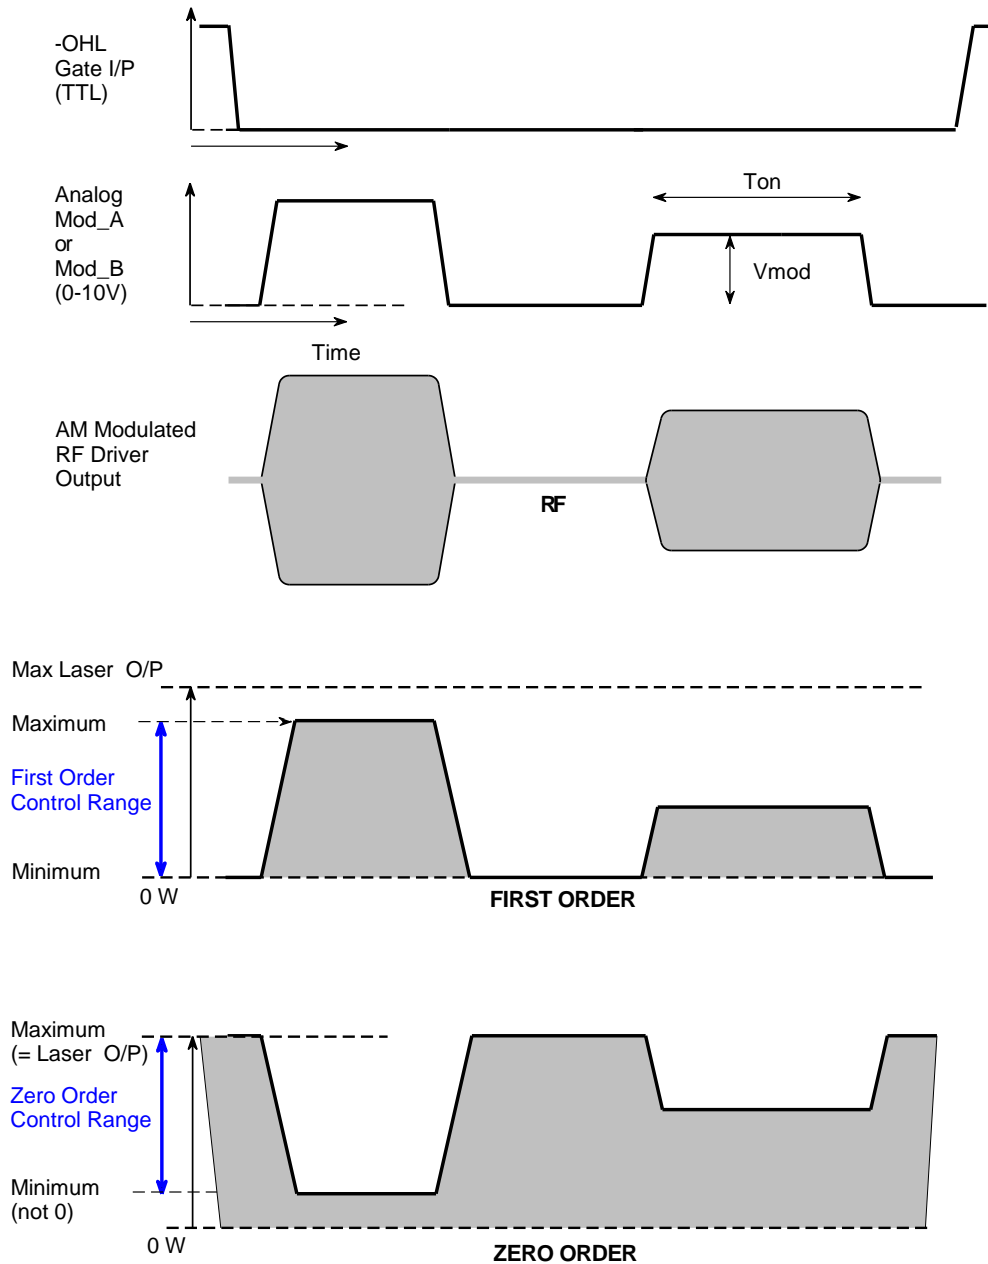

Figure 2: Typical Laser Modulation Waveforms
- 3.1 Connect cooling water to the iSA250-4 at a flow greater than 2.0 litres/minute at < 20 deg.C. Refer to Figure 2. Use of a Corrosion inhibitor is strongly advised.